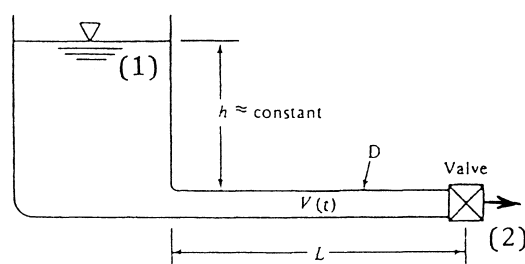

Fig. P3.180
3.180 The large tank of incompressible liquid in Fig. P3.180 is at rest when, at $t = 0$, the valve is opened to the atmosphere. Assuming $h \approx \text{constant}$ (negligible velocities and accelerations in the tank), use the unsteady frictionless Bernoulli equation to derive and solve a differential equation for $V(t)$ in the pipe.